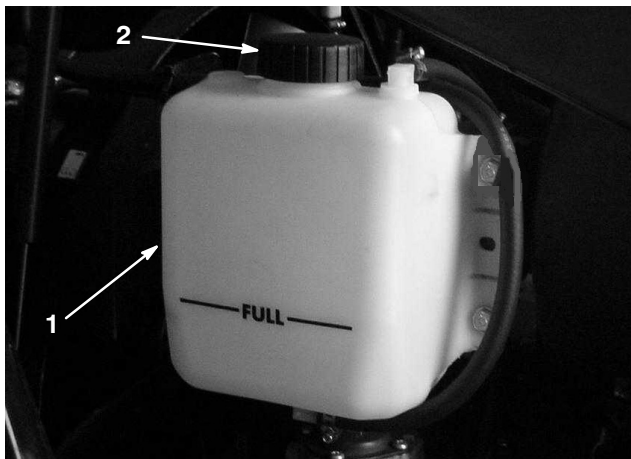

Figure 8
2. Check level of coolant in expansion tank (Fig. 8). The expansion tank must be filled to the FULL mark.